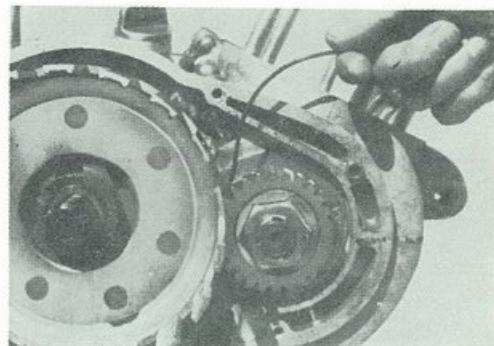

Fig. 8-18-13 Inserting fuse wire
- Backlash between primary gear and primary pinion excessively large or small backlash between the primary gear and primary pinion causes abnormal noise. Measure the backlash with a dial gauge as shown in Fig 8-18-13. Be sure to set the feeler of the dial gauge along the tangential line and turn the clutch housing by hand.